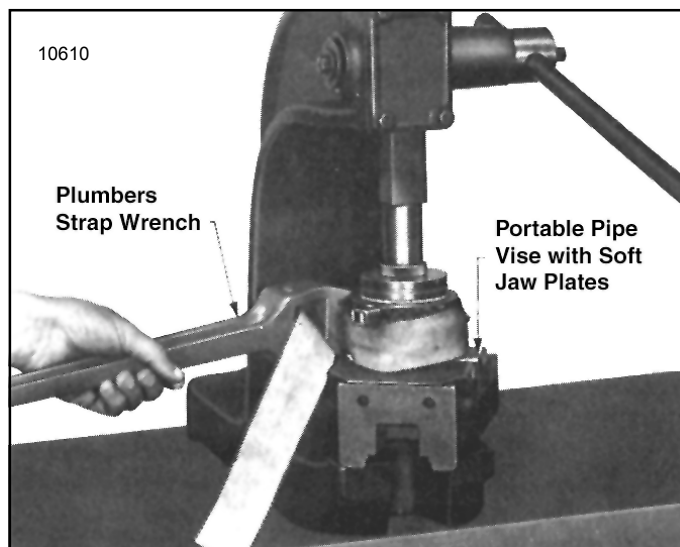

Figure 7-22. Winding Load Brake Gear Using a Plumber's Strap Wrench to Set Up Load Brake Spring.
- (6) The brake spring must be pre-loaded at assembly to a torque of from 10 to 14 lb. ft. This is accomplished using a plumber's strap wrench to wind (rotate) load brake gear to set up spring (Figure 7-22) while pressing brake flange into place using an arbor press. Clamp pinion end of shaft into a portable vise to keep brake from rotating in press. Use brass or copper jaw plates on vise to protect pinion gear teeth. Wind gear counterclockwise (viewing brake from flange end) with plumber's strap wrench and press down on flange until snap ring groove in shaft is exposed allowing snap ring to be installed. Use extreme care not to over wind spring as yield will result and final spring torque will be reduced. Do not wind gear beyond point necessary to install snap ring in groove.